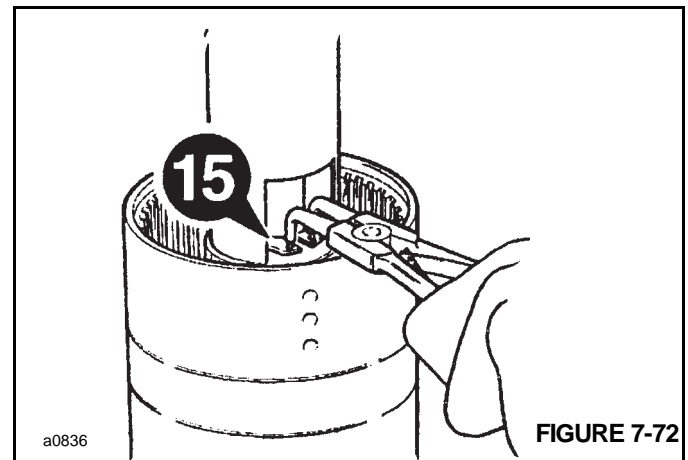

FIGURE 7-72
7. Remove pressure end plate (11) and shim (10).
8. Remove friction plates (12) and counter plates (13). Keep them together in sets. DO NOT mix the plates with those of other clutches.
9. Remove disc spring assembly (14).
10. Position the clutch assembly in a press along with a cutaway tube (Figure 7-72). Compress piston spring and then remove retaining ring (15).
11. Lift off spring retaining plate (16).
12. Remove spring (17) and oil baffle (18).